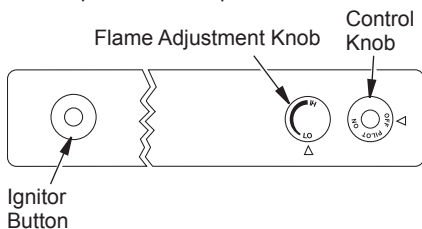

Figure 24 - Control Knob and Ignitor Button Location (Shown as Supplied, No Control Options)
- Press in and turn control knob clockwise to the OFF position (see Figure 24).
- Wait five (5) minutes to clear out any gas. Then smell for gas, including near the floor. If you smell gas, STOP! Follow "B" in the safety information, page 18. If you don't smell gas, go to the next step.
- Press in and turn control knob counterclockwise to the PILOT position. Press in control knob for five (5) seconds (see Figure 24).